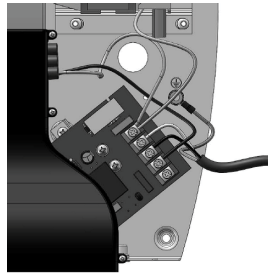

Fig. 5
- f. For 115-Volt Dryers, connect ground wire to ground terminal marked \oplus , the black or hot wire to terminal marked L1, and neutral or white wire to terminal marked N. **A DEDICATED LINE IS REQUIRED FOR EACH 115-VOLT INSTALLATION.** (See Fig. 5)
- g. For 208–240 Volt Dryers, connect ground wire to ground terminal marked \oplus and the 208–240 volt wires to terminal marked L1 and L2. (See Fig. 5)